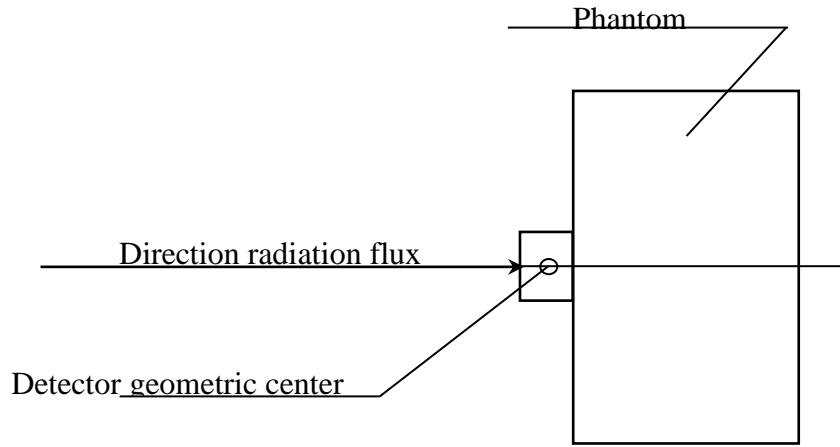

Figure 5.1 – The method of placing the dosimeter with phantom on the dosimeter calibration assembly
- 2) fix the instrument on the phantom, the backside facing the phantom. Place the dosimeter with the phantom on the dosimeter calibration assembly with  $^{137}\text{Cs}$  gamma radiation source so that the calibration direction coincides with the direction of radiation flux axis and the radiation flux axis passes through the geometric center of the detector, Figure 5.1. The geometric center of the detector is marked with "x";